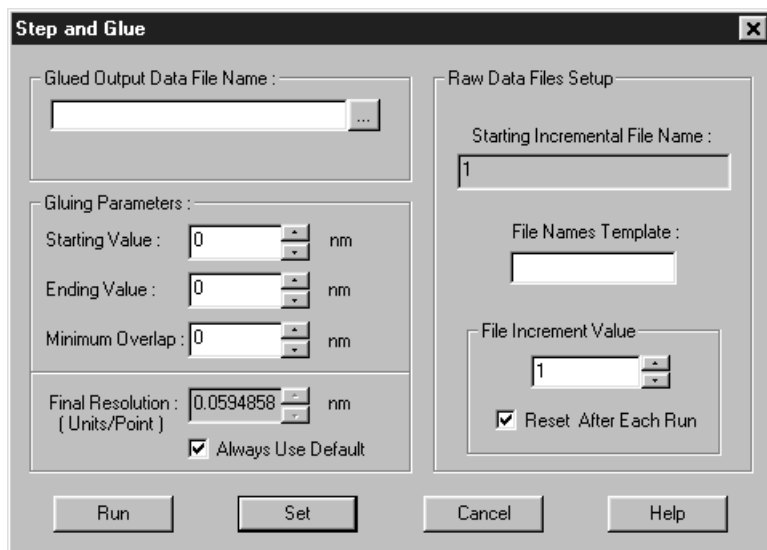

Figure 129. Step and Glue Setup dialog box
4. From the Acquisition menu, select **Step and Glue**. The Step and Glue dialog box (Figure 129) will appear. *For more information, see the online Help for this dialog box.*